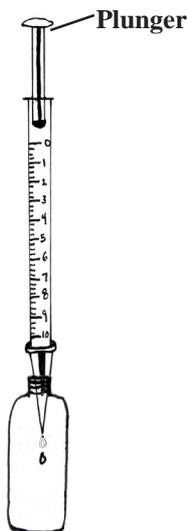

Figure 3-15:
- Replace the cap and reinsert the titrator (syringe Figure 3-15), again be very careful not to disturb the titrator. With the tip of the titrator inserted into the opening of the titrator tube cap, slowly depress the plunger to dispense the Sodium Thiosulfate titrating solution (4169) one drop at a time. Gently swirl the tube to mix the solution.
- Insert the titrator (syringe) into the plastic fitting of the Sodium Thiosulfate titrating solution bottle (4169) (Figure 3-15).